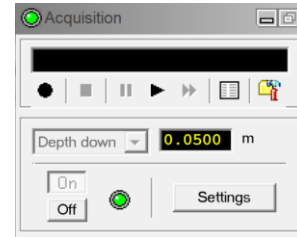

Figure 4-3 Acquisition panel
7. In the **Acquisition** panel (**Figure 4-3**) select the sampling mode (**Depth Down** or **Depth Up** depending on logging direction). Click on **Settings** and specify the corresponding sampling rate. Switch on the sampling (click the **ON** button). Note: The sampling button needs to be set to **OFF** before changing modes. **Time** mode is used for calibration and verifying tool operation at the surface.
8. If desired, complete a **Header** in the **Acquisition** panel (**Figure 4-3**). Press the **Record** button, specify a file name, and start the logging.